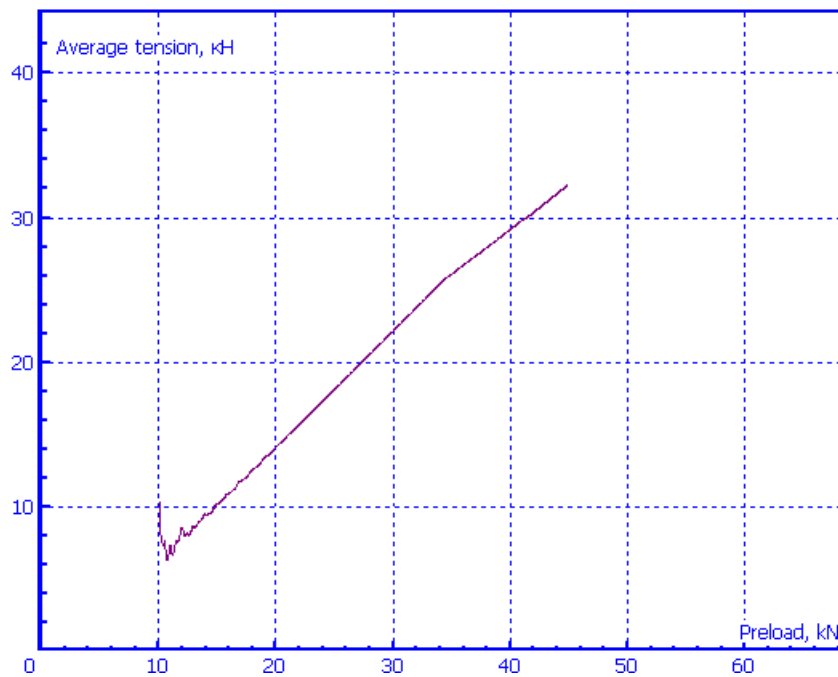

Figure 2.11. Average track tension vs. preload
Let us discuss the main result of the test: dependence of the average track tension on the preload in bushings, Figure 2.11. The plot has two straight sections: the first section (tension is lower 35 kN) when the load on the tension device is less than the tension spring preload and the second section when the tension spring compressed. In our model the preload of the tension spring is 50 kN.
- Now the preload in bushings can be evaluated from Figure 2.11 by the desired track tension. Let the track tension must be 20 kN. The corresponding bushing preload is approximately 26.6 kN.